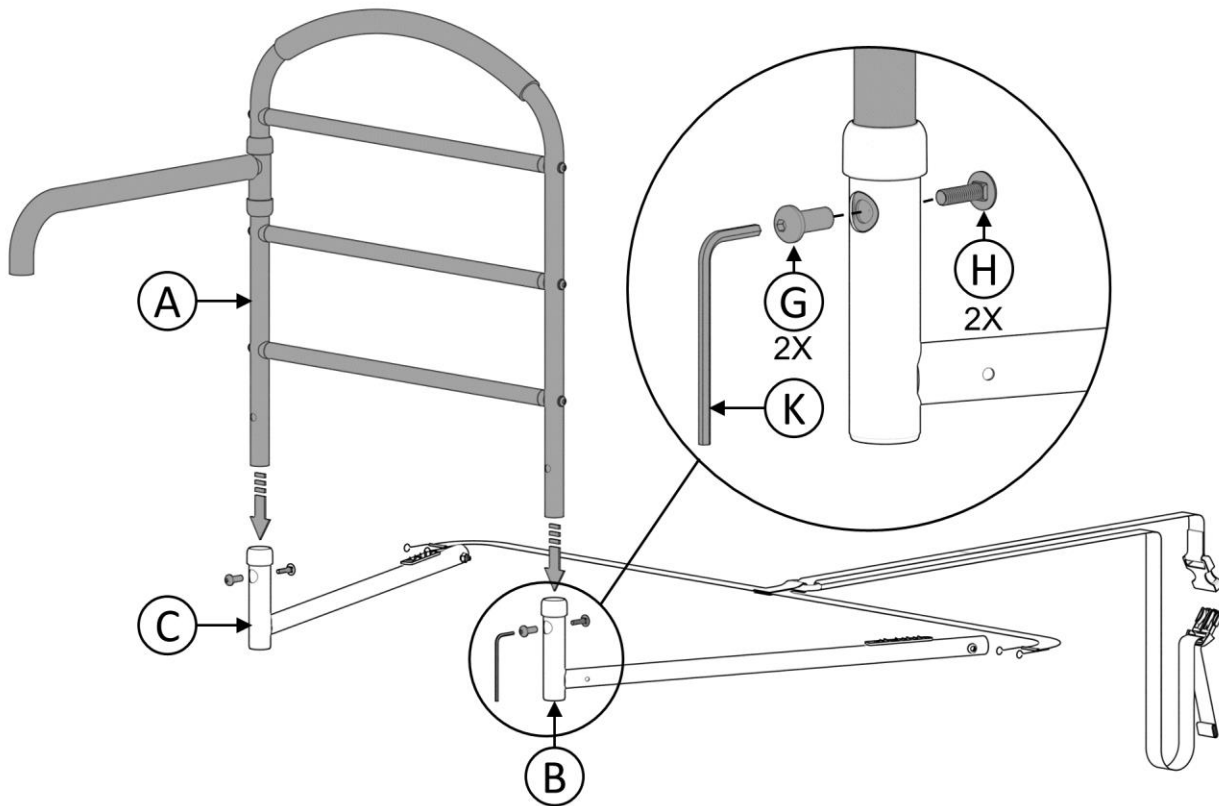

FIGURE 3
3. Insert Handle **A** into Legs **B** and **C** and align holes. Secure Bolts **G** and **H** through holes using provided tool **K**, as shown in *FIGURE 3*.